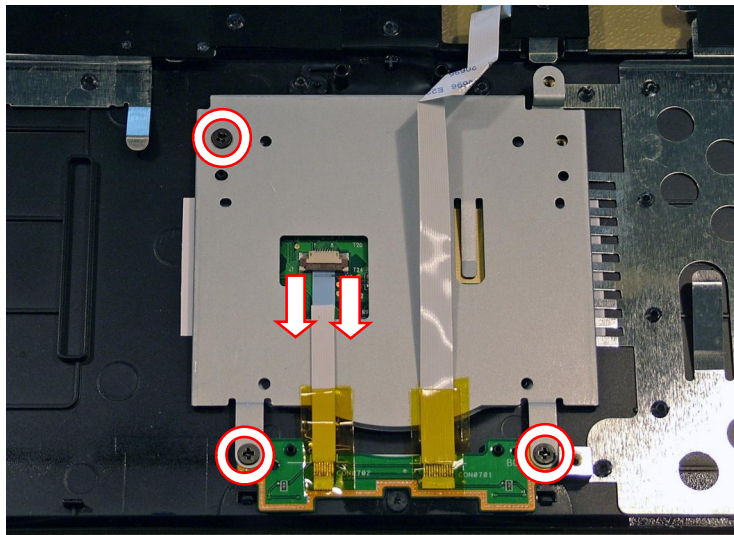

Fig. 41 Location touchpad cable and screws.
2. Remove the three screws securing the touchpad bracket to the top cover (see Fig. 41 on page 25).